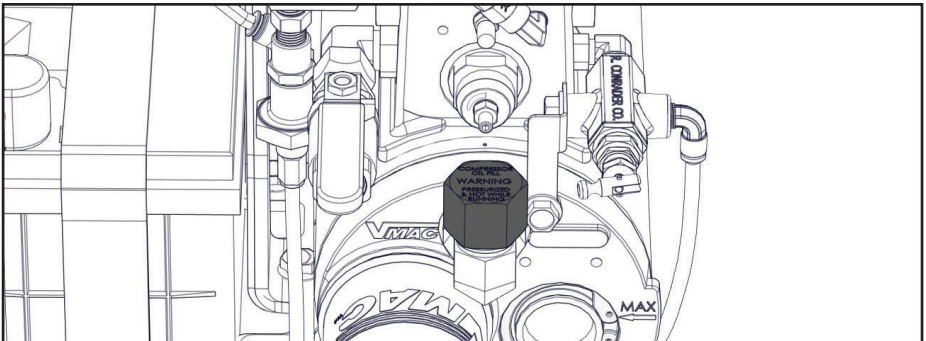

Figure 42 — Compressor oil fill
- Remove the filler cap on the WHASP Tank. Fill the WHASP Tank with VMAC compressor oil until it reaches the "MAX" mark. The air compressor system holds approximately 4 L (1 USG) of oil (Figure 42).